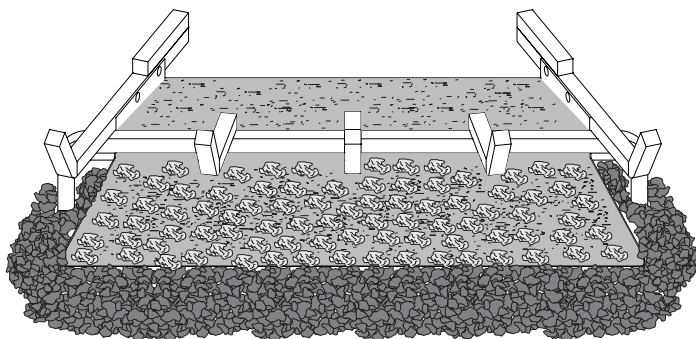

Figure 19
7. Place the Lava Rock (cinders) around the Grate/Burner Assembly. See Figure 19.